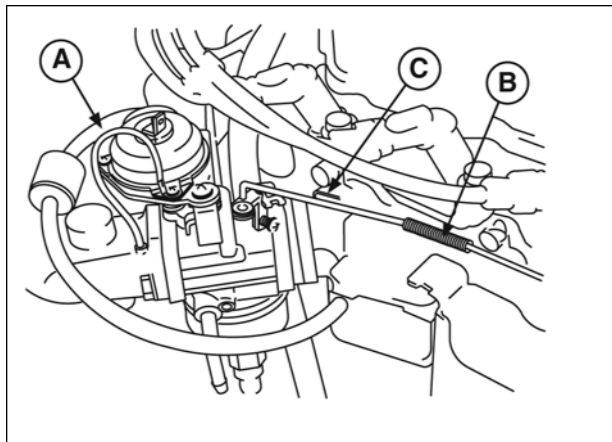

Figure 26
1. Disconnect fuel line and remove air cleaner tube from carburetor air horn. Disconnect vacuum line (A, Figure 26) from vacuum choke break. Disconnect wires from fuel shut off solenoid and automatic choke.
2. Unhook governor link spring (B) from throttle lever and disconnect governor link (C).